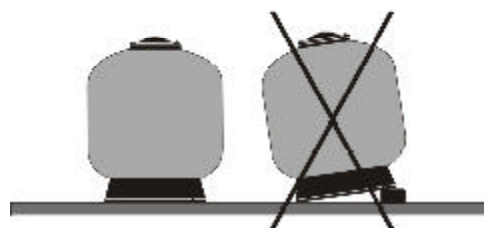

FIG.4
- Place the filters in their designated position, and ensure that they are stable and the floor is perfectly flat. **(FIG. 4)**